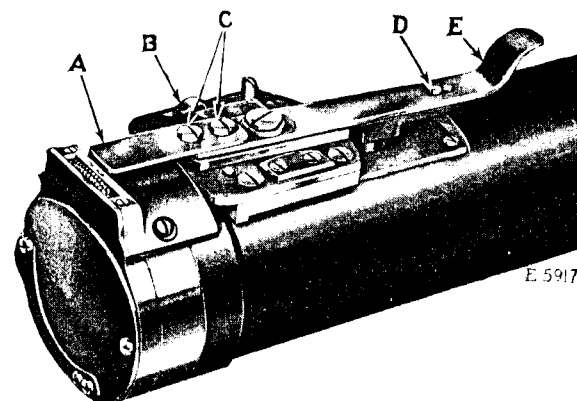

FIG. 11. ADJUSTMENTS ON TRIMMER
(SEE FIG. 11)
To engage the trimmer, swing the lever (E) to the right and raise its end so that the pin (D) can enter the slot in the lever as shown in Fig. 11.